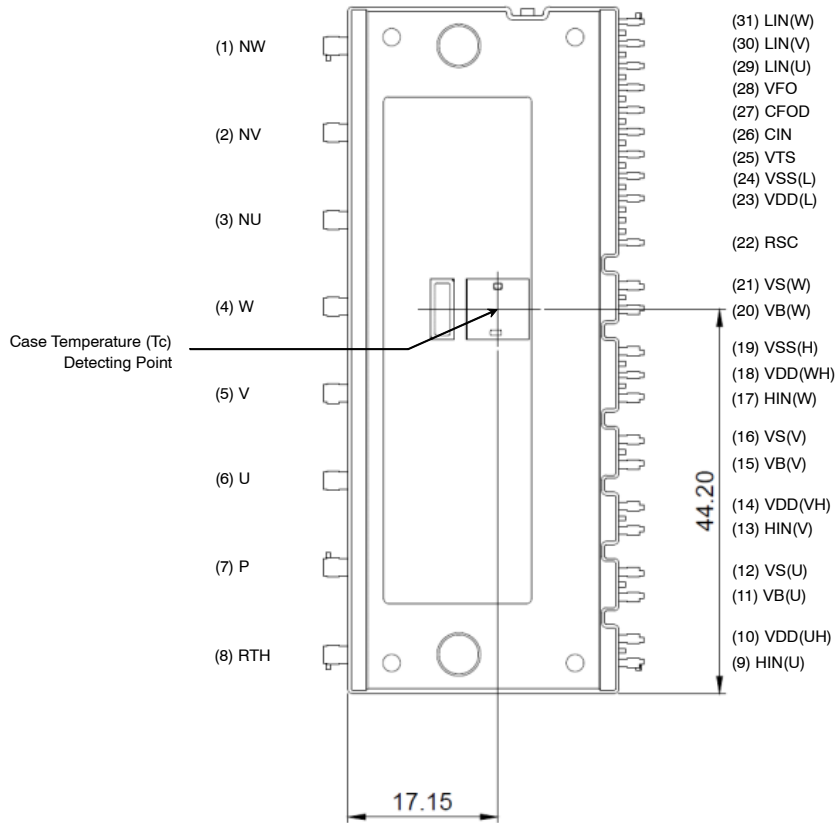

Figure 10. Case Temperature (Tc) Detecting Point
3. For the measurement point of case temperature (T_c), please refer Figure 10.